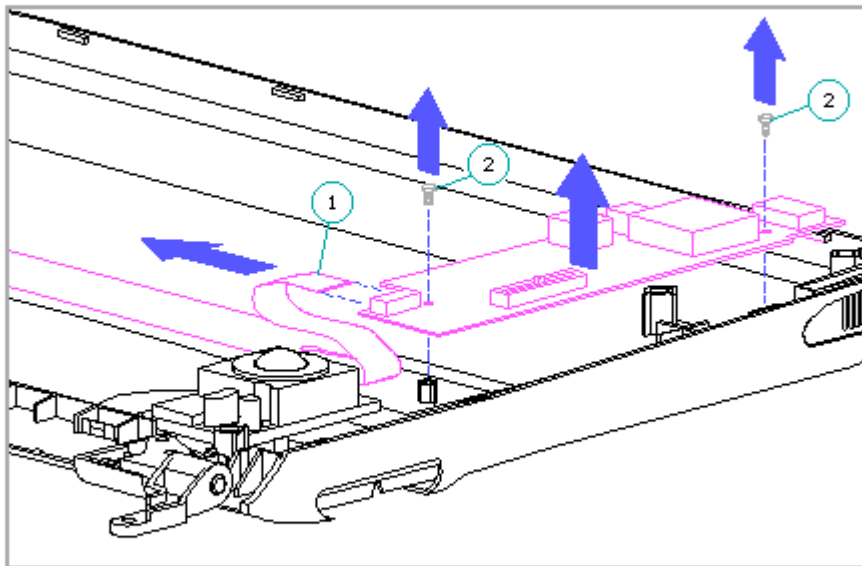

Figure 4-17. Removing the Inverter Board
3. Remove the display cable [1] from the inverter board (Figure 4-17).
4. Remove the two screws [2] that attach the display inverter board to the display enclosure (Figure 4-17).
5. Remove the inverter board (Figure 4-17).